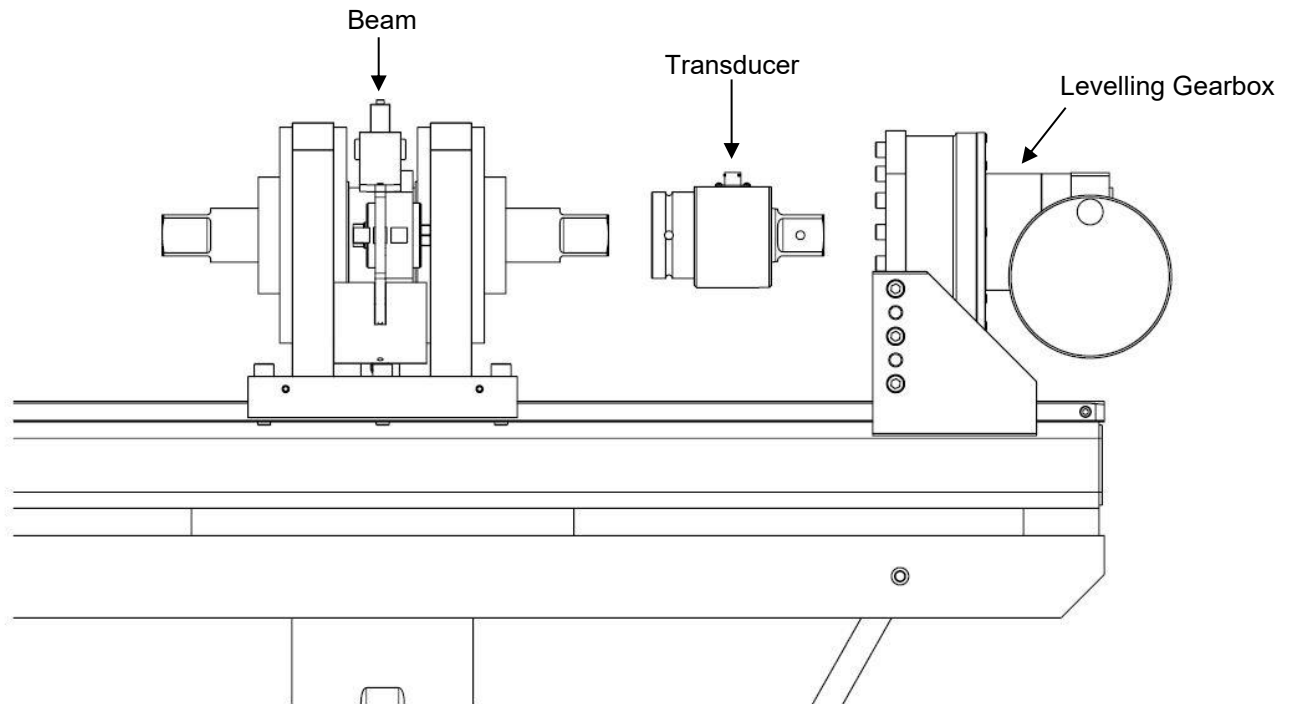

**FIGURE 5 – Hanger Weight Platform**
- 4.2 Place weight platform under hanger to be loaded, as shown in figure 5.
3. Place weight platform, figure 5, under hanger to be loaded.